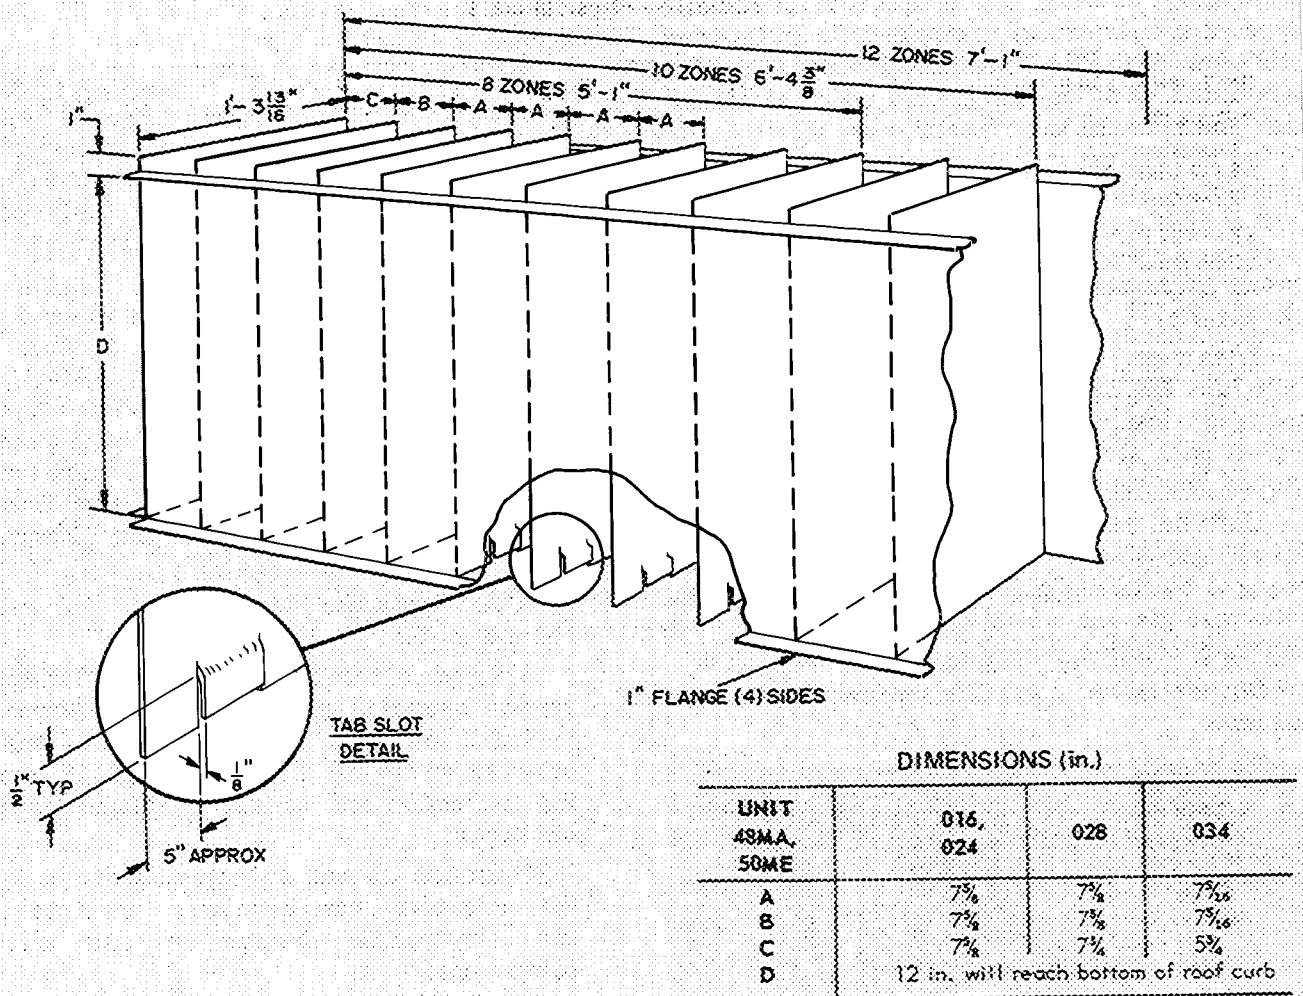

Fig. 6 – Field-Fabricated Zone Duct Plenum Detail
**Field-Fabricated Ductwork** – Supply and return air openings are shown in Fig. 2 and 4. To simplify supply air connection, it may be desired to field fabricate and install a zone duct plenum as shown in Fig. 6. Duct plenum may be installed prior to unit positioning if desired. Zone supply air duct openings on base unit are fitted with a tab slot connection similar to the type shown on plenum detail except for end partitions which are hemmed. This hem is positioned so that the one-in. flange at the entering end of field-fabricated plenum will force-fit between it and adjacent unit frame member.